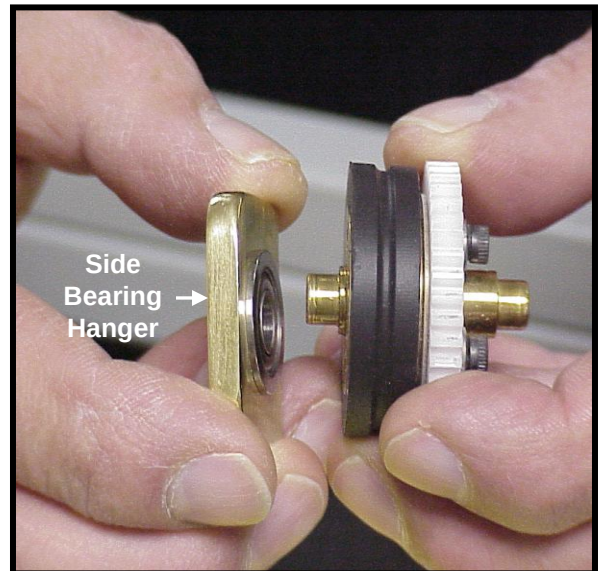

Figure 41
13.5.2.6 Slide Drive Wheel-side Bearing Hanger off the hub shaft. **See Fig. 41.**